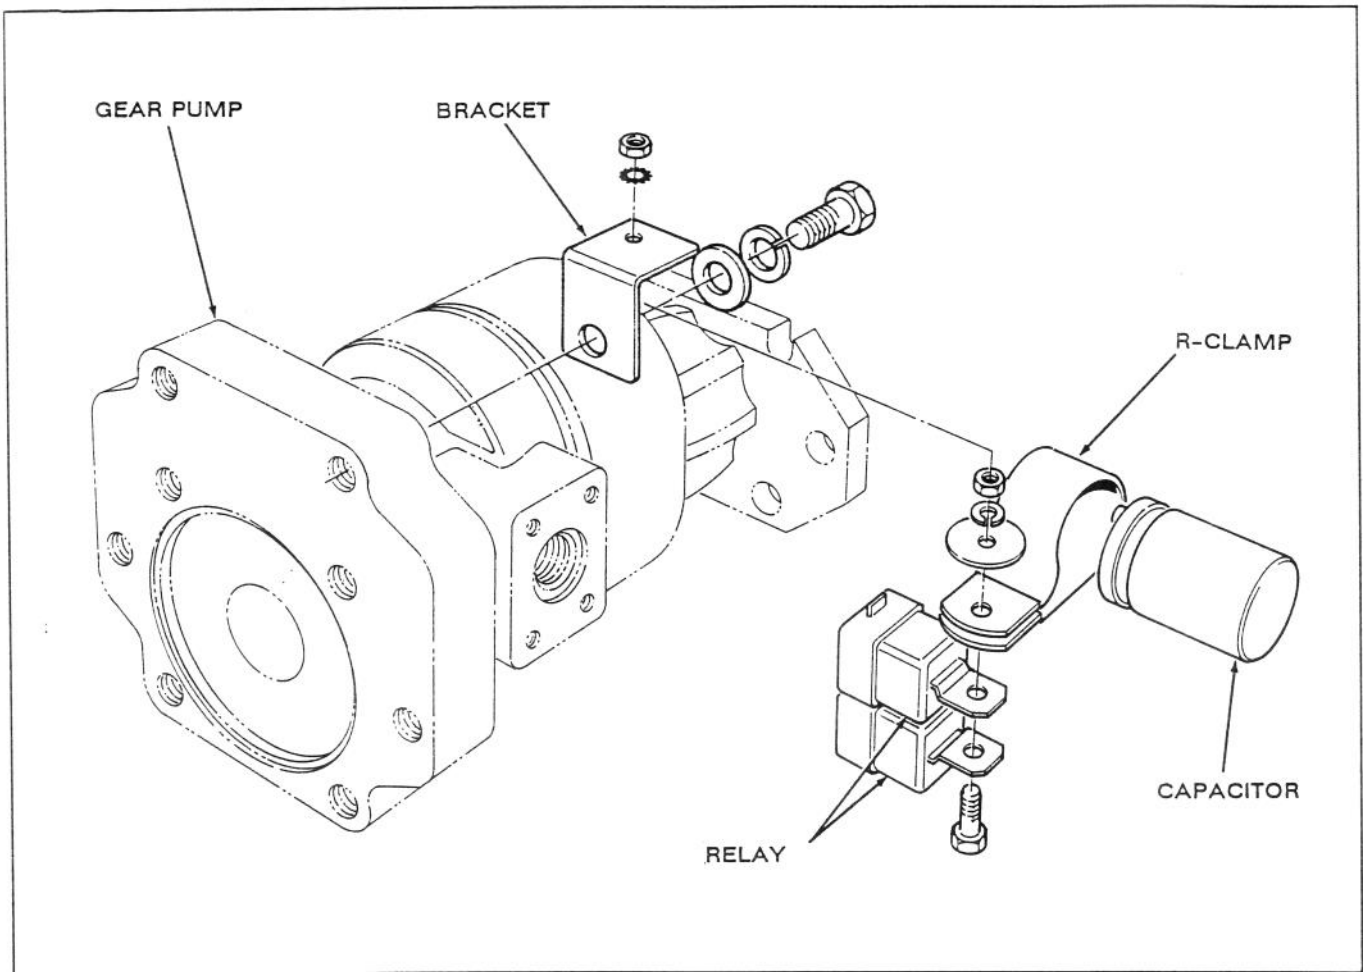

Figure 3
### MOUNT ELECTRICAL COMPONENTS (Fig. 3)
1. Slide capacitor into R-clamp. Mount both relays to R-clamp with a 1/4 - 20 x 1" lg. capscrew, lockwasher and nut as shown in figure 3.
4. Remove (2) pan head screws securing instrument panel to frame.